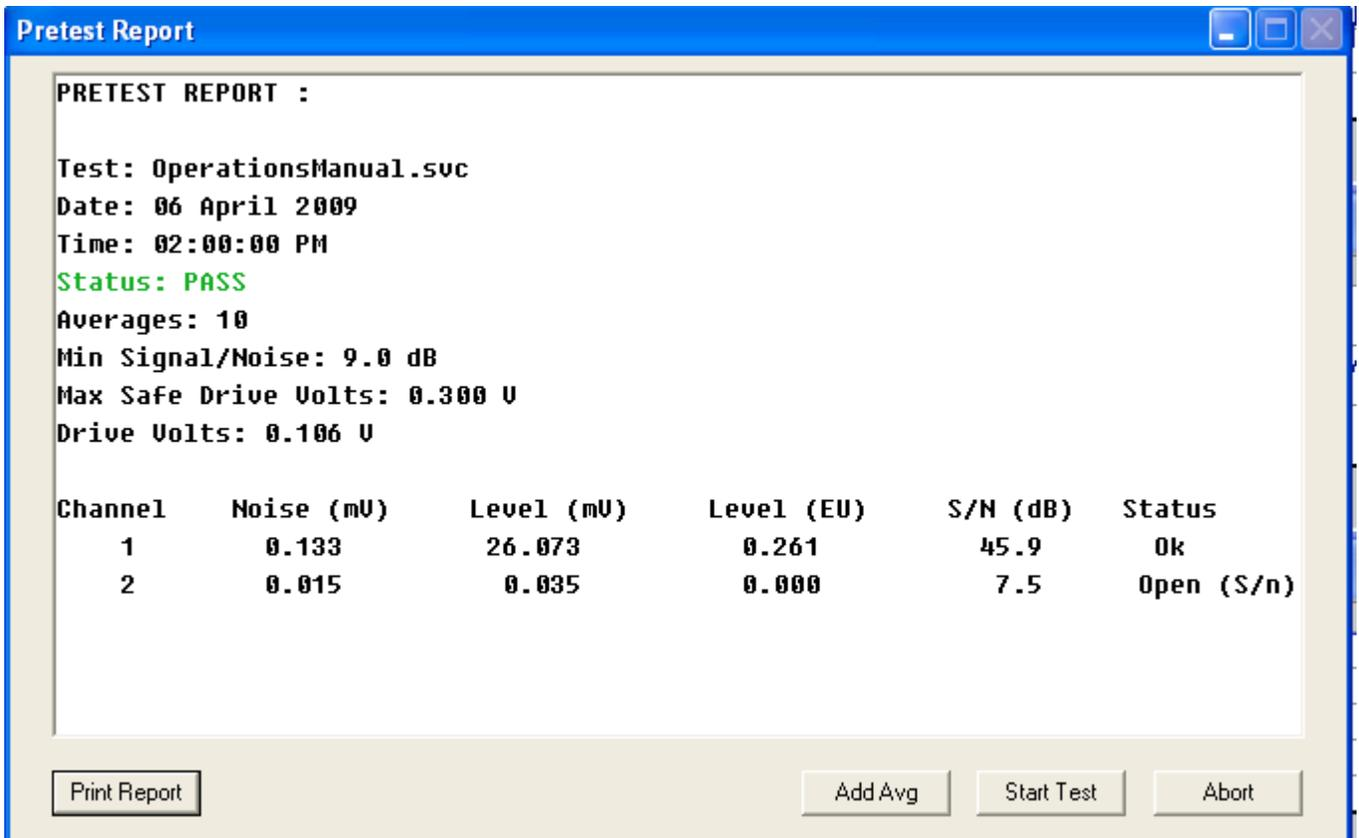

Figure 4-21: Screenshot of a “Pretest Report”
- 6) After the Pre-Test runs, click "Start Test" in the “Pretest Report” window when it appears. See Figure 4-21.